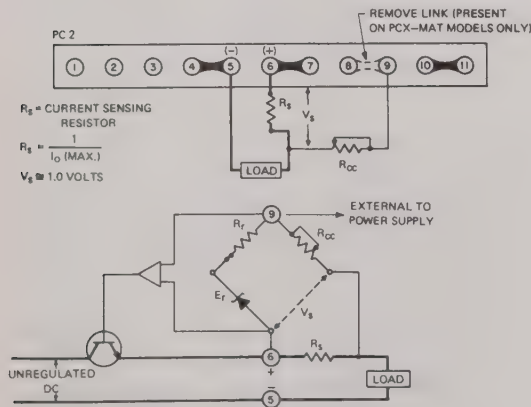

FIG. 3-8 CONNECTIONS FOR CONSTANT CURRENT OPERATION
- 3-27 In the constant current operating mode, the voltage comparison bridge is interconnected with an external current sensing resistor, R_s and a current control, R_{CC} , (as shown in FIG. 3-8) to maintain a constant voltage drop across R_s . In this way, an adjustable constant load current is obtained. Characteristic of the constant current supply is the ability to change its output voltage automatically in order to maintain a constant current through a range of possible load resistances. The range of output voltage that the supply can deliver and simultaneously maintain constant current, is referred to as the "COMPLIANCE VOLTAGE".
3-30 PROCEDURE (Refer to FIG. 3-8)